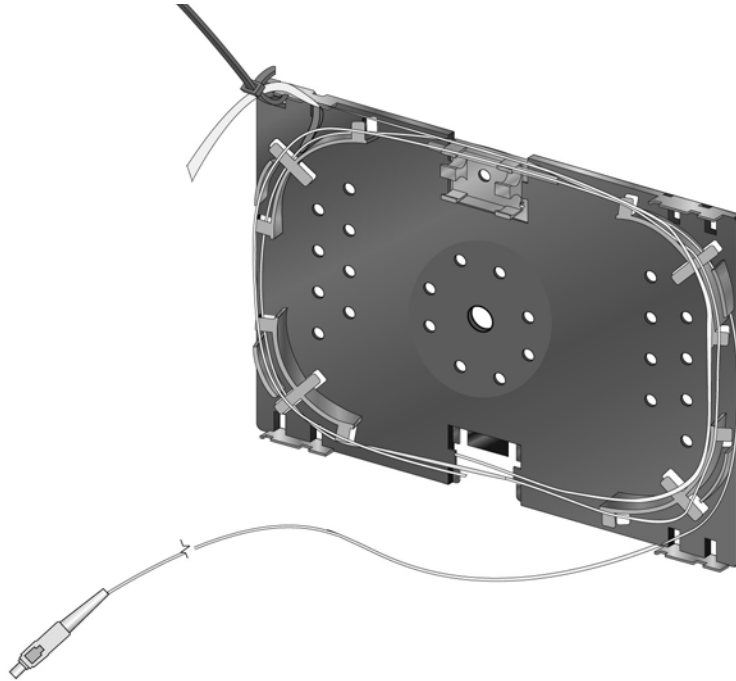

Figure 23. Securing the Pigtail
14. Route the pigtail once around the splice tray and out through the lower right corner, as shown in Figure 23.